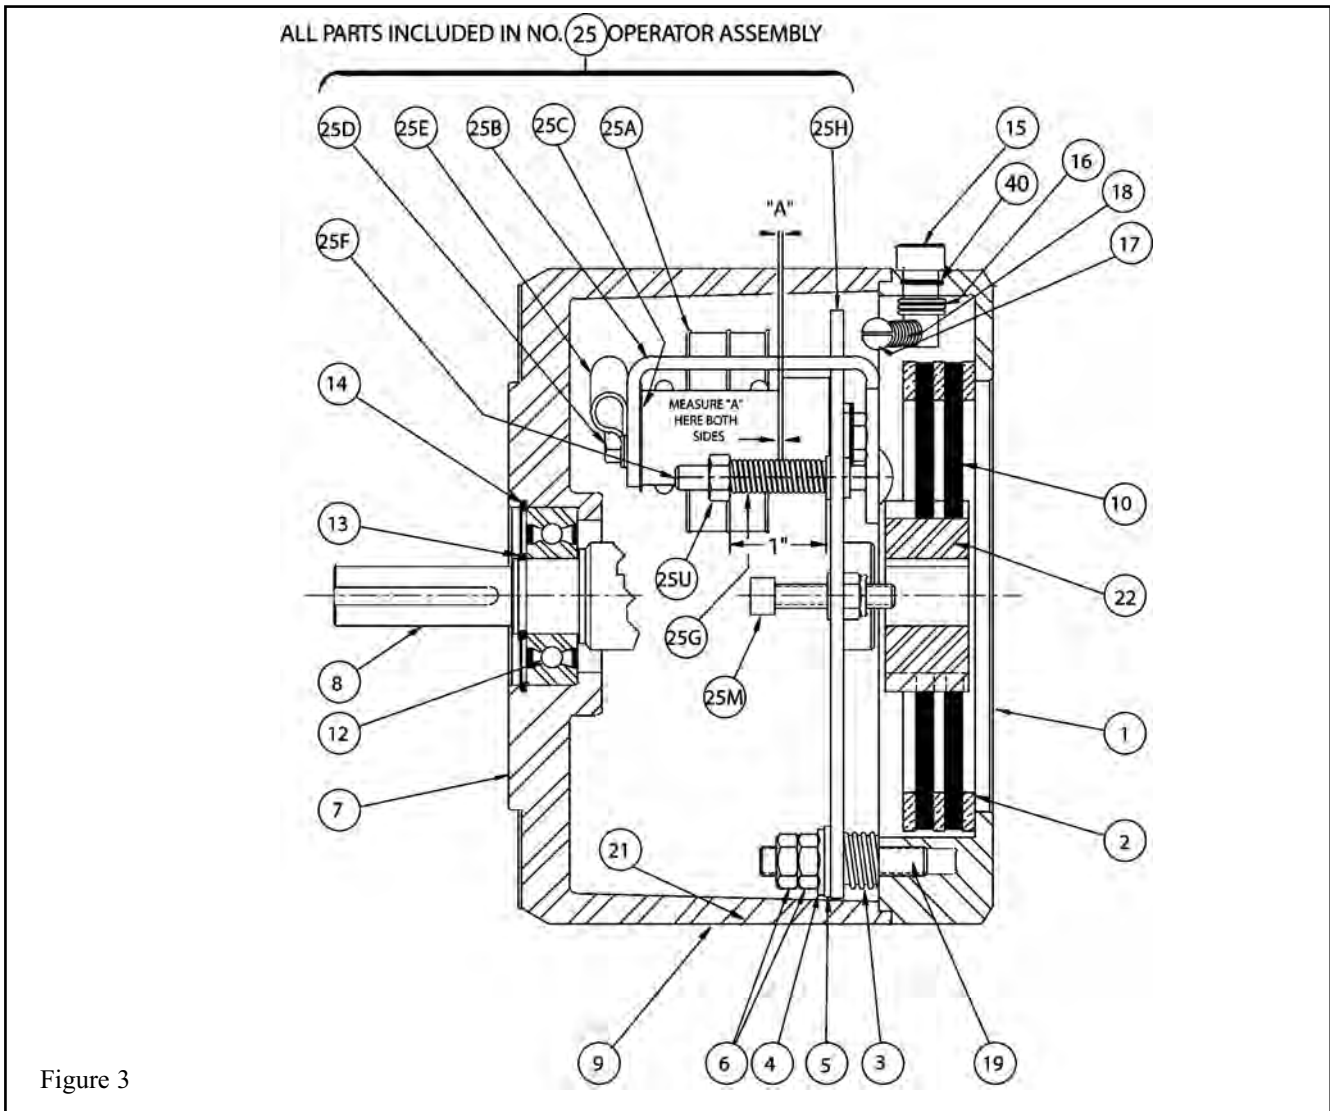

Figure 3
Number in parentheses refer to parts illustrated in Figs. 3, 4, 6, 7 and 10.
Refer to Figs. 3 and 4.
1. To adjust, remove access window cap assemblies (9) to expose adjusting screws (25M) and magnet air gap "A".
2. Measure air gap "A" using 3/8" to 1/2" wide feeler gauge as shown in Figs. 3 and 4.
Refer to Figure 3.
Refer to Figs. 3 and 10.
Refer to Figs. 3, 5 and 10.
Refer to Figs. 3, 6 and 10.
4. Reassemble to magnet bracket (25B) using items (25U), (25G), and (25F). Reassemble operator assembly to brake bracket. Set magnet air gap "A" and set torque springs (25G) to 1" as shown in Fig. 3.
Refer to Figs. 3, 7 and 10.